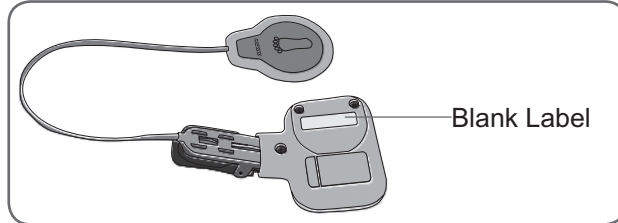

Figure 75: Label on the Gait Sensor for the System ID Number.
7. Locate the System ID Number on the NESS L300 Plus carrying case (for example, A334). Write the number on the small label on the back of the new Gait Sensor. See Figure 75. This number identifies which system the sensor is registered to.